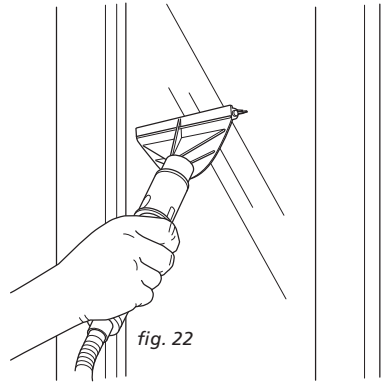

fig. 22
- 2 Select either DUST, MOP or SCRUB mode by pressing the **ON/STEAM SETTING** button and wait until the selected setting indicator light turns solid blue. Hold down the steam trigger to start steaming. (fig. 22)